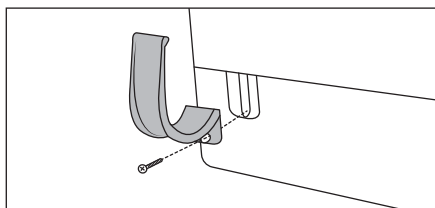

Fig. 1
- ◆ Screw the hose holder **16** onto the appliance (see Fig. 1).